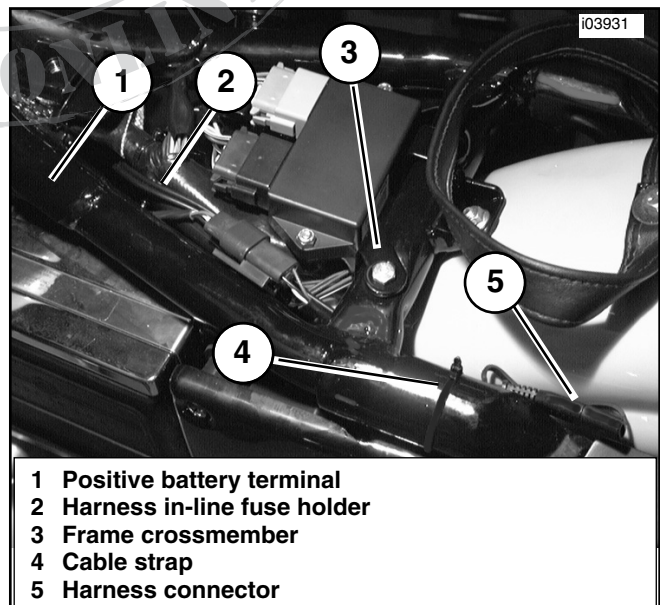

Figure 3. Sportster Battery Harness Routing (2003 and Earlier Models)
1. See Figure 3. Route the harness/ connector (5) toward the rear of the bike following the upper left frame tube. Cleanly tuck the in-line fuse into the space on the side of the battery.
2. Continue to route the harness/ connector under the frame crossmember (3) and back between the left frame rail and the fender. Secure the connector to the inside of the left rear frame tube using a cable strap (4). Trim any excess from the cable strap.